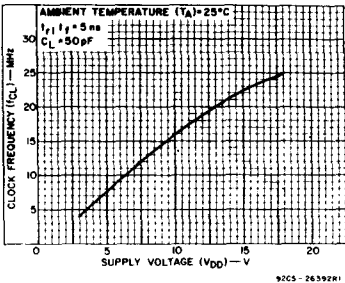

Fig.8 — Typical clock frequency vs. supply voltage (toggle mode—see Fig. 16).
The time period (T) for this multivibrator can be approximated by: $T_X = \frac{1}{2} R_X C_X$ for $C_X \geq 0.01 \mu F$. Time periods as a function of R_X for values of C_X and V_{DD} are given in Fig. 8. Values of T vary from unit to unit and as a function of voltage, temperature, and $R_X C_X$.